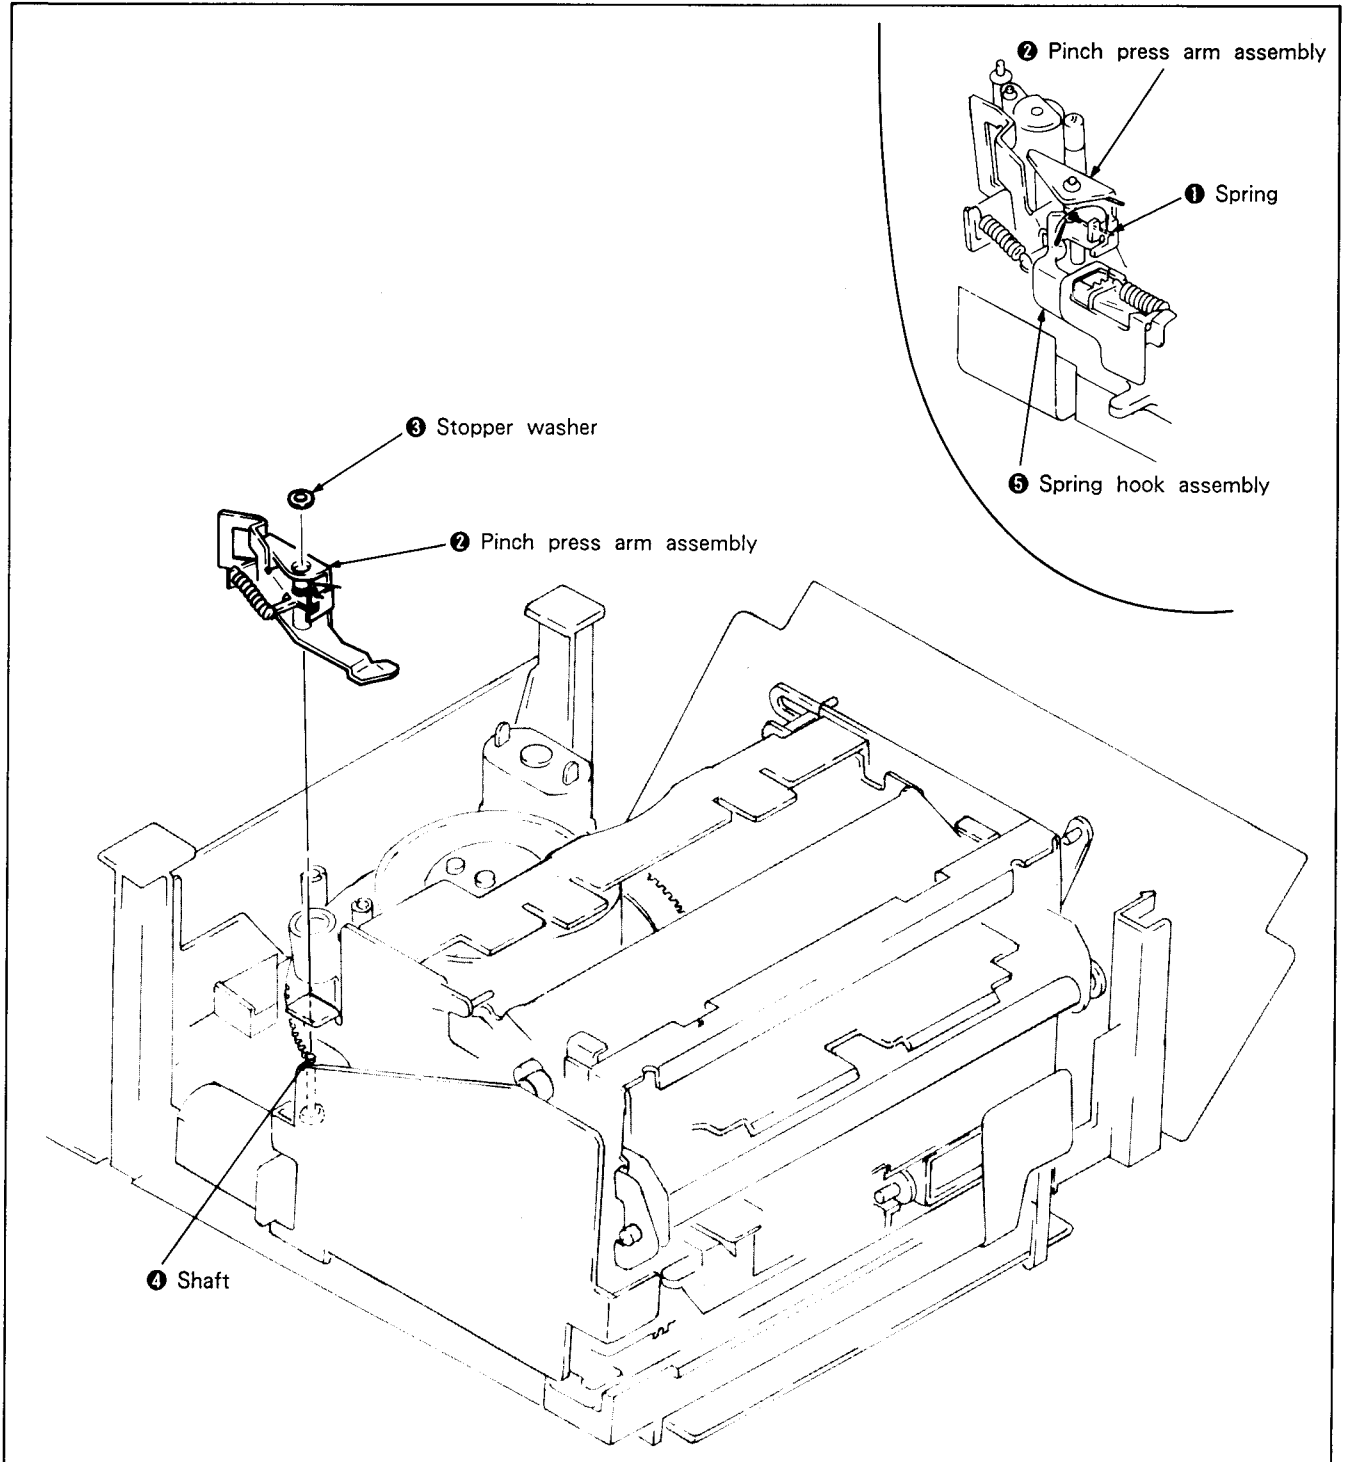

Fig. 7-8.
#### 1. Removal (See Fig. 7-8.)
#### 2. Mounting (See Fig. 7-8.)
- 2) Change the spring position as described in 7-3-3. 1. Removal, 1). (See Fig. 7-8.)
- 3) Remove spring ①. (Note its hooking position.)
- 4) Remove screw ② and remove the spring hook assembly ③.
- 6) Remove the tension regulator band assembly claw ④.
- 7) Remove the tension regulator arm assembly ⑤.